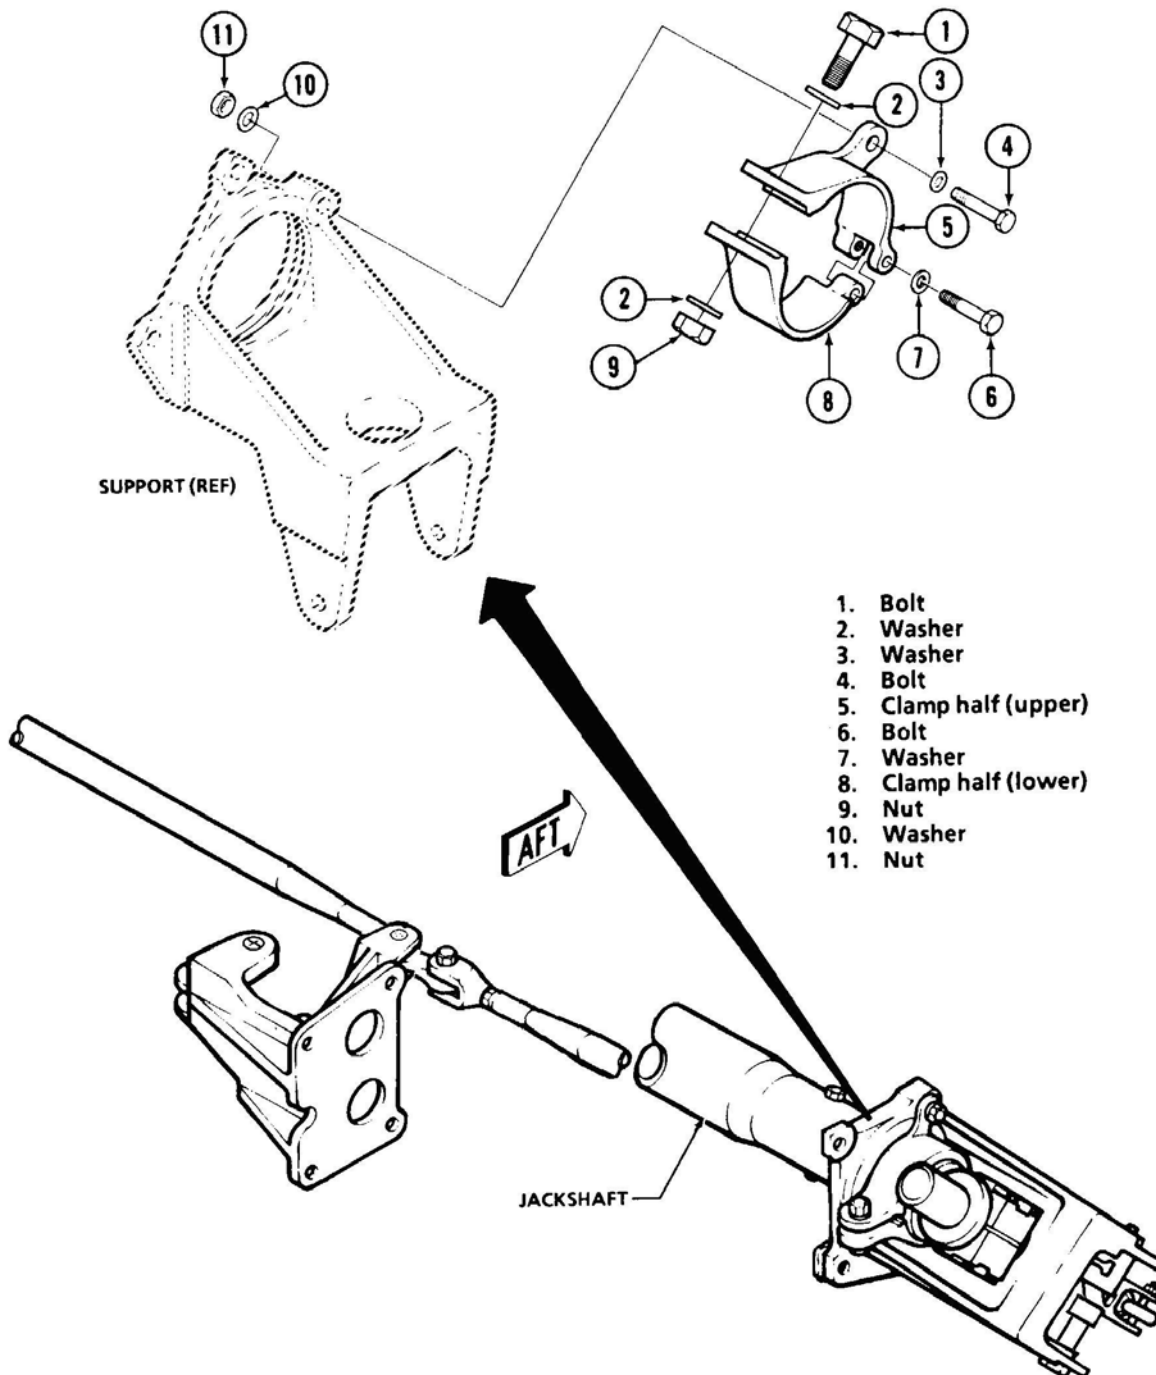

Figure 67-11. Friction Clamp Assembly
67.2.3.4.1 Place clamp halves around elbow (Figure 67-11).